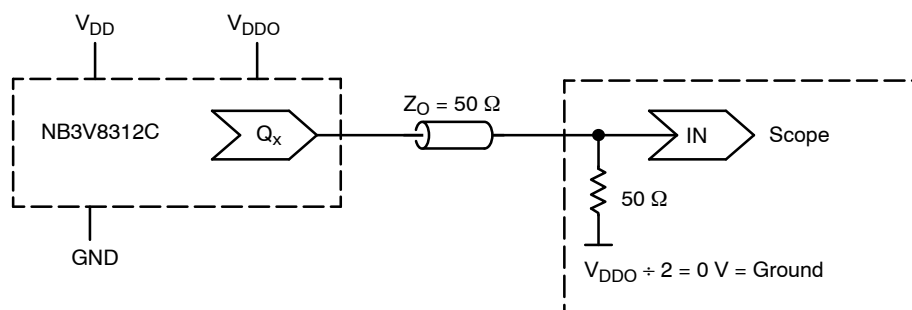

Figure 7. Typical Device Evaluation and Termination Setup – See Table 8
6. Outputs terminated  $50\text{ }\Omega$  to  $V_{DDO}/2$  unless otherwise specified. See Figure 7.
7. Outputs loaded with  $50 \Omega$  to  $V_{\text{DDO}}/2$ ; see Figure 7. CLOCK input with 50% duty cycle; minimum input amplitude = 1.2 V at  $V_{\text{DD}} = 3.3$  V, 1.0 V at  $V_{\text{DD}} = 2.5$  V,  $V_{\text{DDO}}/2$  at  $V_{\text{DD}} = 1.8$  V.